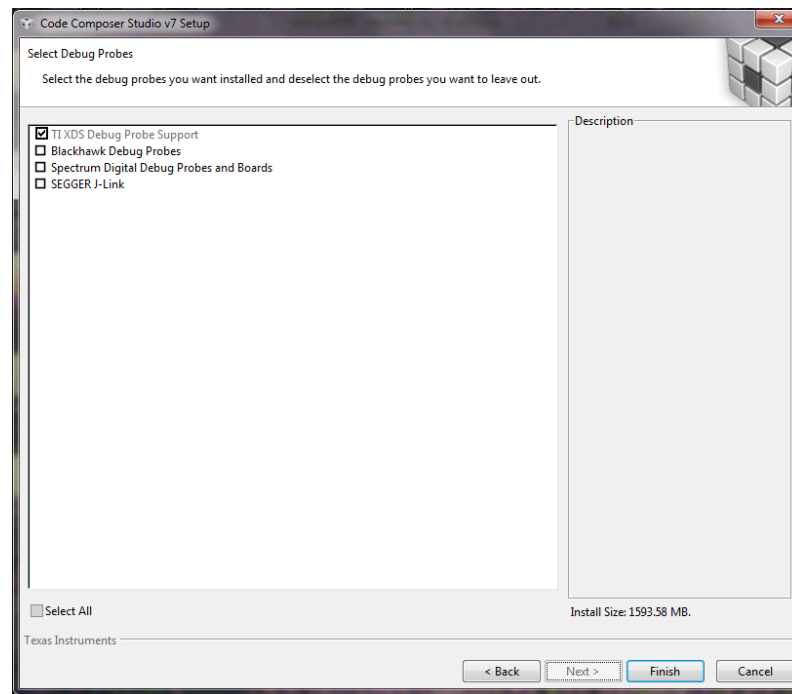

Figure 68 CCS debug probe selection
- We are using XDS100v2 debug probe. Therefore, we will choose **XDS** under **debug probes**, as shown in Figure 68 and hit next. If you are using a different